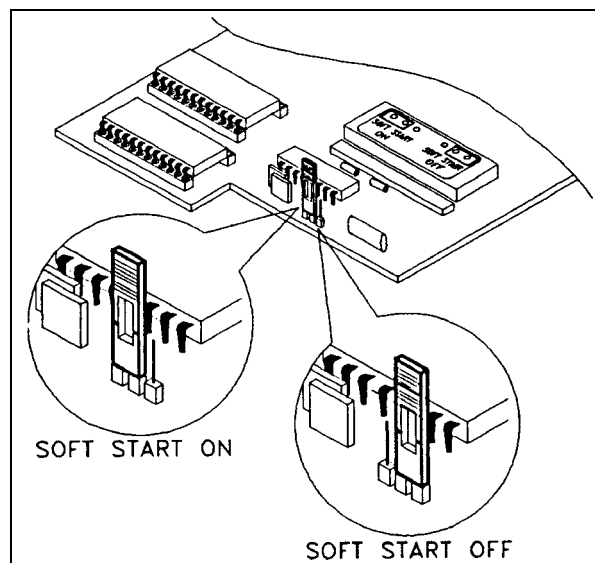

Figure 3-1- Soft Start jumper
- Move the red jumper from the actual position to the other according to the label attached over the integrated circuit near the jumper (see Fig. 3-1).